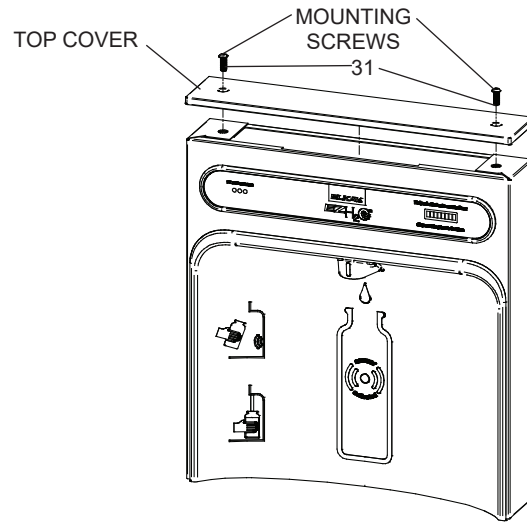
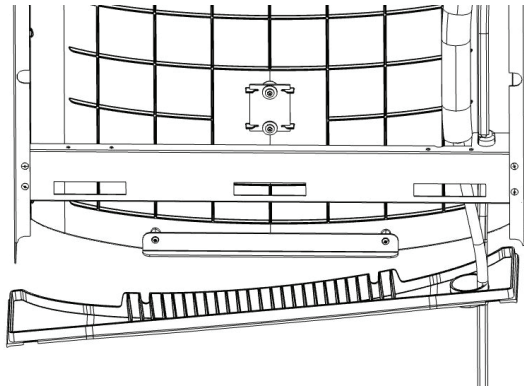

Fig. 9
Fig. 10
- 1) Remove two (2) mounting screws with 5/32" Allen wrench holding top cover to Bottle Filler (See Fig. 9). Remove top cover. Note do not discard mounting screws, they will be needed to reinstall top cover.
- 7) Feed power cord & 3/8" water line through hole in tower/basin gasket (See Fig 10).
- 8) With the power cord, wire(s), and waterline through hole on top of water cooler place Bottle Filler on the three (3) angled tabs protruding from the wall mounting plate installed on wall. Make sure round boss in gasket fits in hole of basin.
- 9) Once Bottle Filler is installed on wall plate tabs, water line, wire(s) and power cord are installed properly, push top of Bottle Filler toward wall and line up top cover two (2) holes.
- 10) Reinstall Top Cover on Bottle Filler (See Fig. 9) with two mounting screws from step 1 above. Caution, do not over tighten screws.